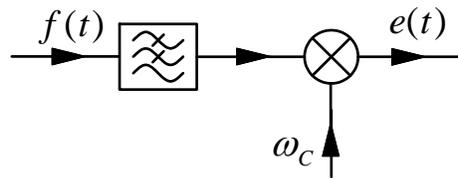

Figure 3. Generation of a suppressed carrier signal.
We consider three different kinds of modulated signals. Amplitude modulation has been described above. *Suppressed-carrier* modulation is achieved by omitting the carrier signal; this is illustrated in Figure 3. Note that if the carrier is omitted in (1) the signals remaining will be above and below the carrier frequency (hence this is called *double-sideband suppressed carrier*, DSB). *Single-sideband* suppressed carrier modulation is accomplished by removing one of the sidebands; thus we can have both upper sideband and lower sideband signals. These spectra (for modulation with a single sinusoid) are shown in Figure 4.